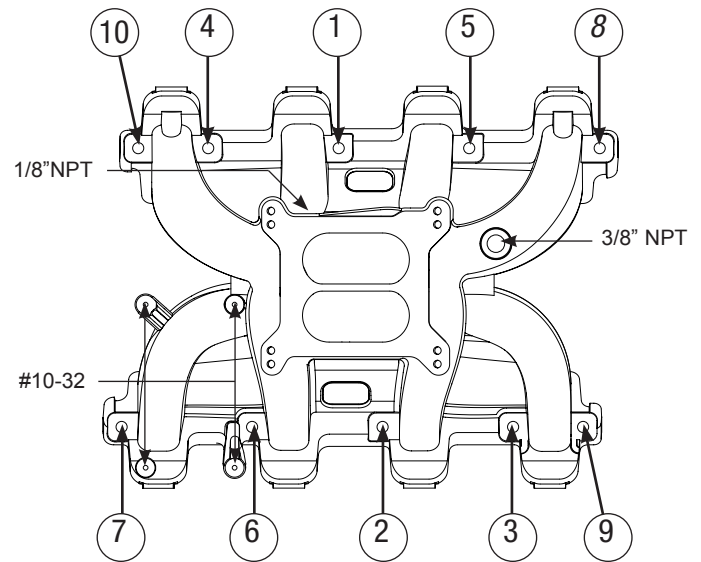

Figure 1 - Intake Manifold Tightening Sequence
3. Following the torque sequence in **Figure 1**, torque all manifold bolts to 11 ft/lbs.
5. (#7118 & 71196 Only) Apply a bit of liquid Teflon thread sealant to the threads of the supplied 1/8” NPT to 1/4” hose fitting and install the fitting into the 1/8” NPT hole in the passenger side of the plenum (**See Figure 1**).
NOTE: If you choose to mount the Timing Control Module in another location, you will need to plug the #10-32 mounting hole nearest to the carburetor pad on the #1 runner (See Figure 1). The drilled hole breaks thru into the runner therefore a vacuum leak will occur if it's not used.